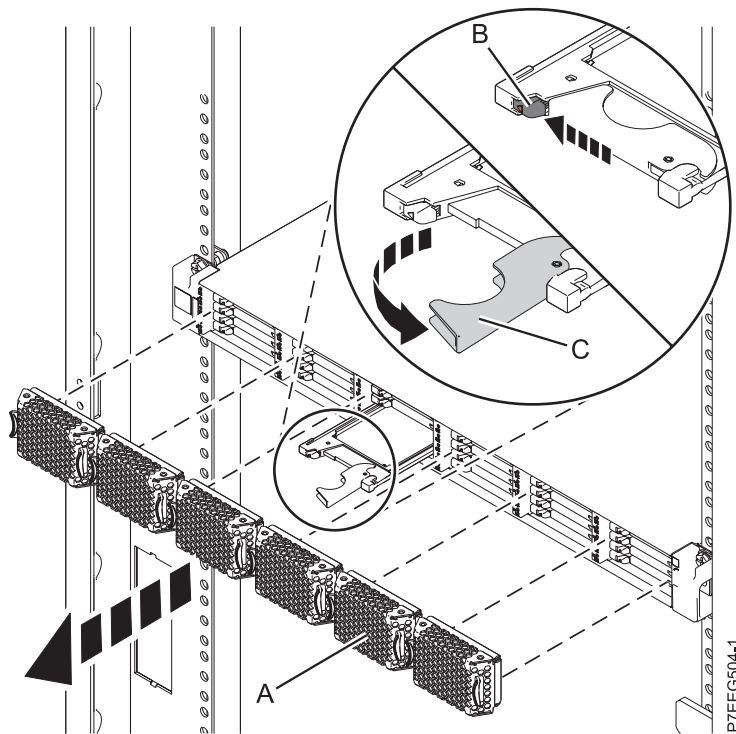

Figure 29. Removing the solid-state drive from the 5888 PCIe storage enclosure
- Pull off the bezel (A) that covers the slot containing the solid-state drive.
- Slide the release latch (B) over gently to unlock the drive handle, see Figure 29 on page 45.